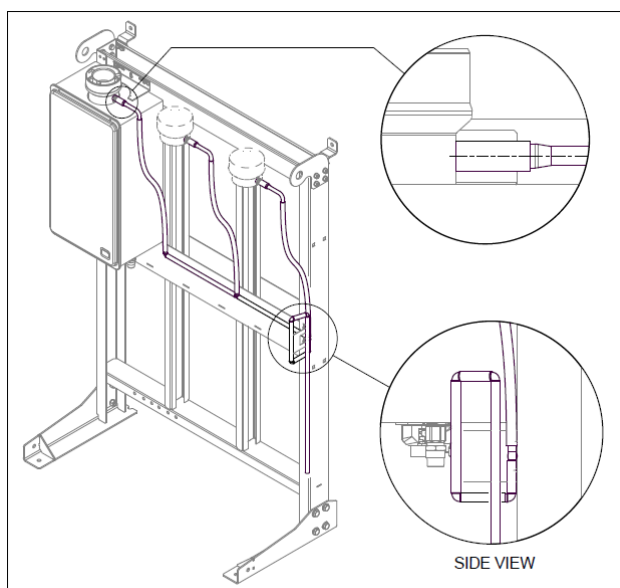

Figure 18- Condensate Trap and Condensate Drain Line
The Condensate Trap must be filled with water prior to the operation of the water heater. Refer to Figure 18- Condensate Trap and Condensate Drain Line on page 48.
2. Undo the strap holding the aluminium tube and fit the end of the short silicone tube to the spigot of the water heater flue outlet as shown in Figure 18- Condensate Trap and Condensate Drain Line.
7. Direct the end of the condensate trap tube to appropriate discharge point. The end of the condensate trap tube may be cut to suit. Two (2) loose plastic elbows (per trap) are provided with the system for convenience.